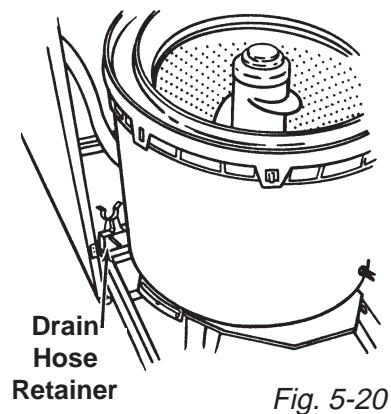

Fig. 5-20
3. Remove the Drain Hose from the retainer (Fig. 5-20)